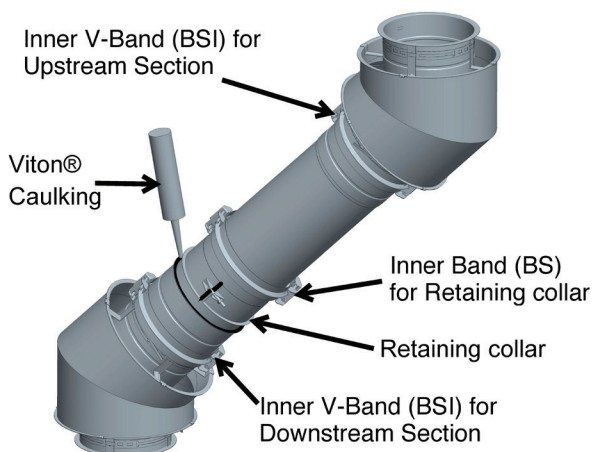

Figure 37- Step 7-9- Secure the Double Flanged Sleeve and seal the Retaining Flange Collar
Step 8 - Apply thin layer of sealant inside the retaining collar, and also a continuous bead of sealant at the collar overlap seam. See Figure 37.